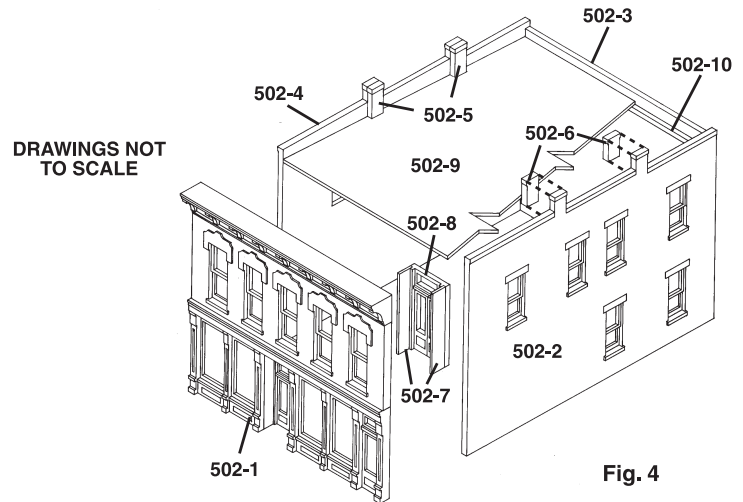

Fig. 4
- Using Side Panel material (white styrene strip), cut two Entry Door Side Panels (502-7) the same height as Entry Door (502-8) (Fig. 4).
The Roof (502-9) will be glued to the bottom of the four Chimney Backs. The Roof slopes downward from the front of the building to the rear. The bottom of the Chimney Backs slope in the same direction. Chimney Backs (502-5) slope downward from left to right and Chimney Backs (502-6) slope the opposite way (Fig. 4).
- Glue Front Wall (502-1) to Side Wall (502-2). Align brick courses while keeping bottom of Walls as level as possible and corners square (Fig. 4). **TIP!** Use styrene Roof as a square.